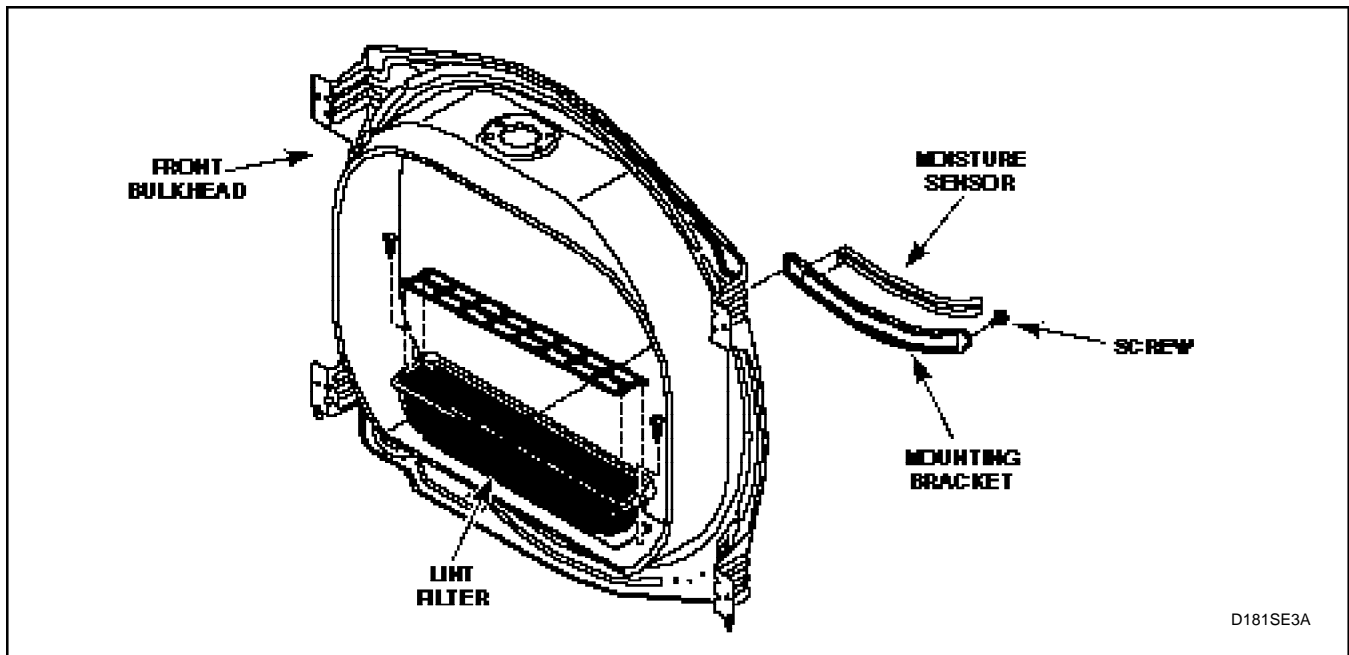

Figure 40
- g. Disconnect two wires connected to the moisture sensor, *Figure 40*.
- i. Remove the screw (located inside lower front bulkhead) holding moisture sensor mounting bracket to bulkhead, *Figure 40*.